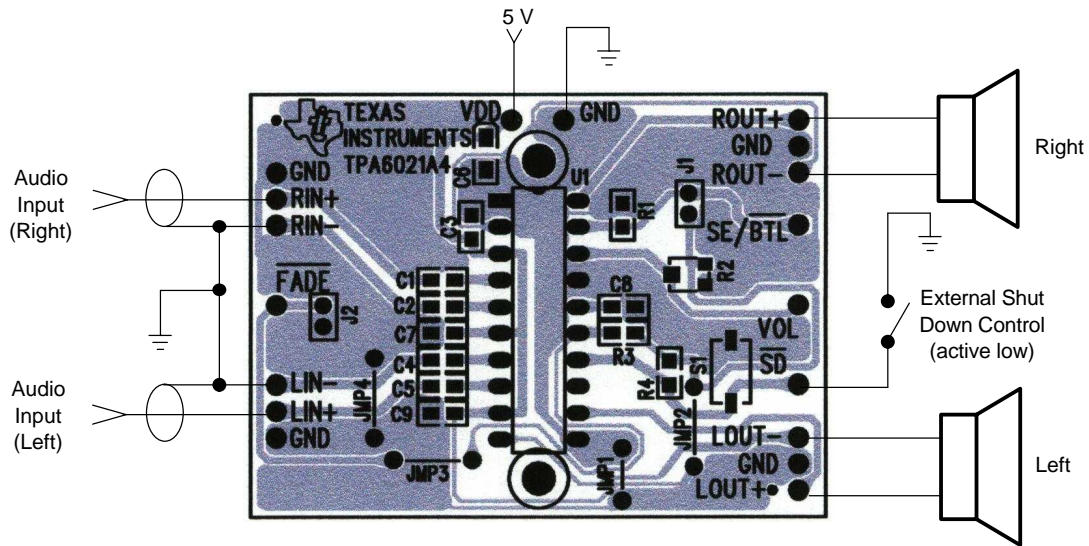

Figure 2. TPA6021A4 EVM Connected for Stereo BTL Output
- a. For BTL output, connect a speaker to the module OUT+ and OUT- pins of each channel (see Figure 2),